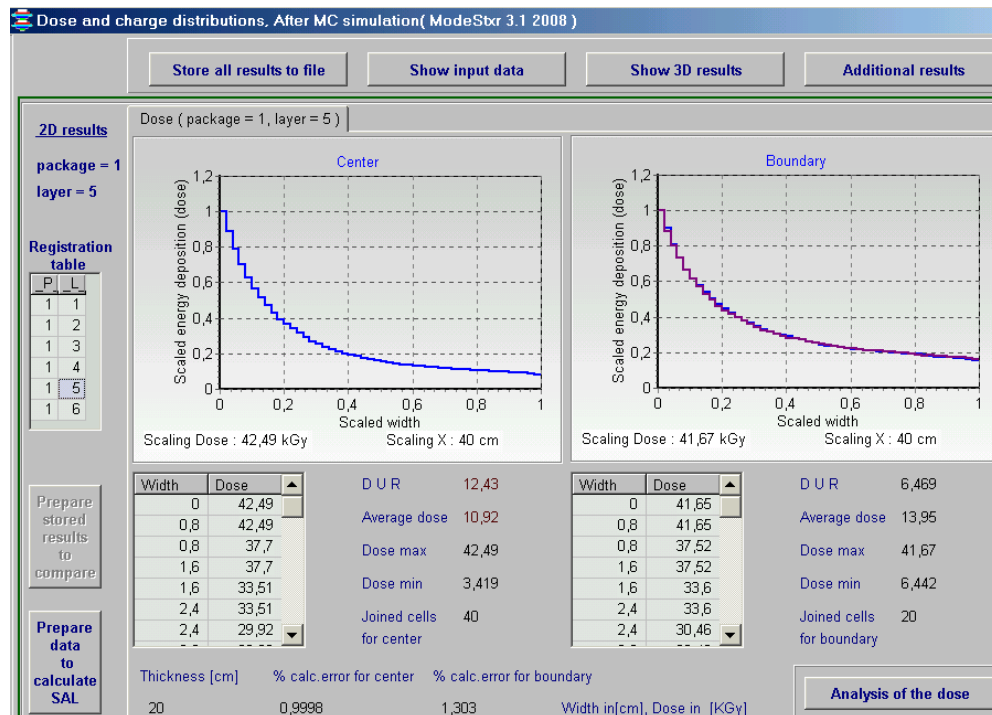

Fig.21. Form with 2D view of the depth dose distribution of X-ray in graphical and tabular forms for the 5th layer in the package.
- After finish Simulation, Click the button “View results after simulation” in the Main form of the Software ModeStXR. The form "Dose distributions after MC simulation" with 2D absorbed dose distributions in graphical and tabular forms for chosen packages and layers in the Table “2D registration” will be opened (see Fig.21).
- **Click** the button **"Additional results"** in the form **"Dose distributions after MC simulation"** (see Fig.21).
- **Click the button "Prepare store results to compare"** in the form **"Dose distributions after MC simulation"**. (See Fig.21).